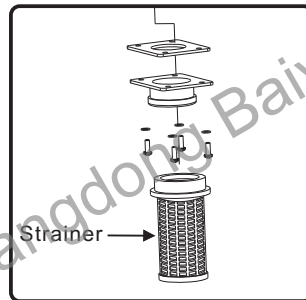

fig.10
- ① Take out the vacuum hose and the drain hose from the recovery tank lid. Then, pull out the whole recover tank to separate it from the machine.
- ② Loosen the two recovery tank lids and turn over the recovery tank to discharge all the soiled water.
- ③ Use the clean water to wash the recovery tank and air-dry it. Take care of preventing sludge or foreign objects from blocking the water.
- ④ After cleaning the recovery tank, fasten the two recovery tank lids. After that, push the recovery tank into the machine. Finally, connect the vacuum hose and the drain hose with the mouth of the recovery tank.
- Clean the strainer periodically. (fig.10)